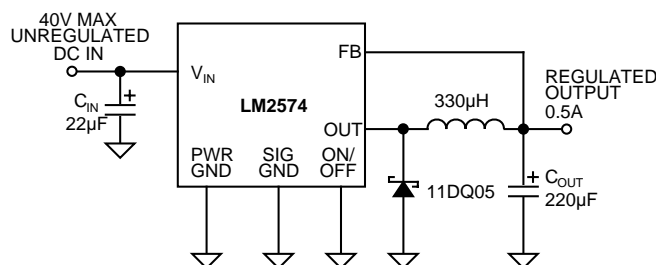

Figure 1. Fixed Output Regulator Circuit
- Note 3** External components such as the catch diode, inductor, input and output capacitors can affect switching regulator system performance. When the LM2574 is used as shown in *Figure 1* test circuit, system performance will be shown in system parameters section of Electrical Characteristics.
# Typical Performance Characteristics (Circuit of Figure 1)